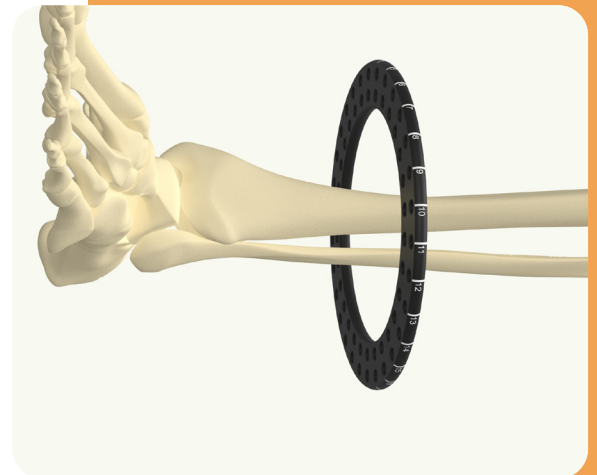

Fig. 2 - Position the Proximal Ring
- 1 Select the appropriate proximal Ring and slide over the affected limb (Fig. 2).